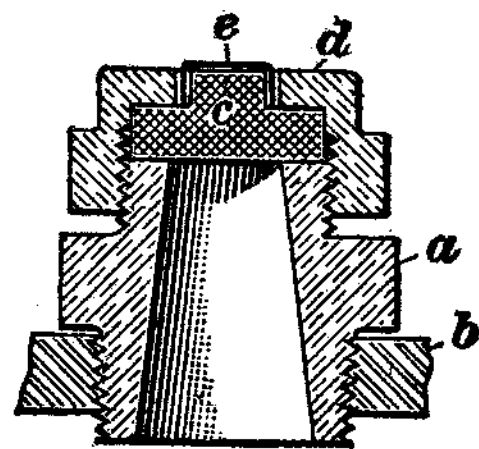

FIG. 16
29. A form of plug especially adapted to internally fired boilers of the locomotive type is shown in Fig. 16. The plug *a* is screwed into the crown sheet *b*, and the fusible cap *c* is laid